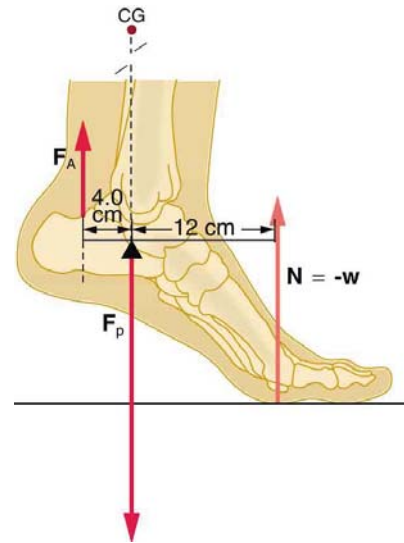

Figure 9.41 The muscles in the back of the leg pull the Achilles tendon when one stands on one's toes. A simplified lever system is shown.
33. A 75-kg man stands on his toes by exerting an upward force through the Achilles tendon, as in **Figure 9.41**. (a) What is the force in the Achilles tendon if he stands on one foot? (b) Calculate the force at the pivot of the simplified lever system shown—that force is representative of forces in the ankle joint.